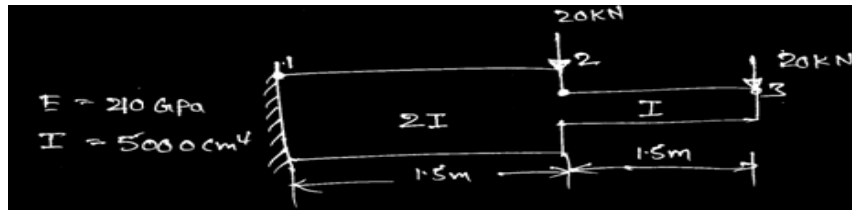

Fig: 4
4. For the cantilever beam shown in the Fig: 4 determine the nodal displacements. Construct the shear force and bending moment diagrams. Compare the results. Given $E = 210 \text{ GPa}$ and $I = 5000 \text{ cm}^4$.